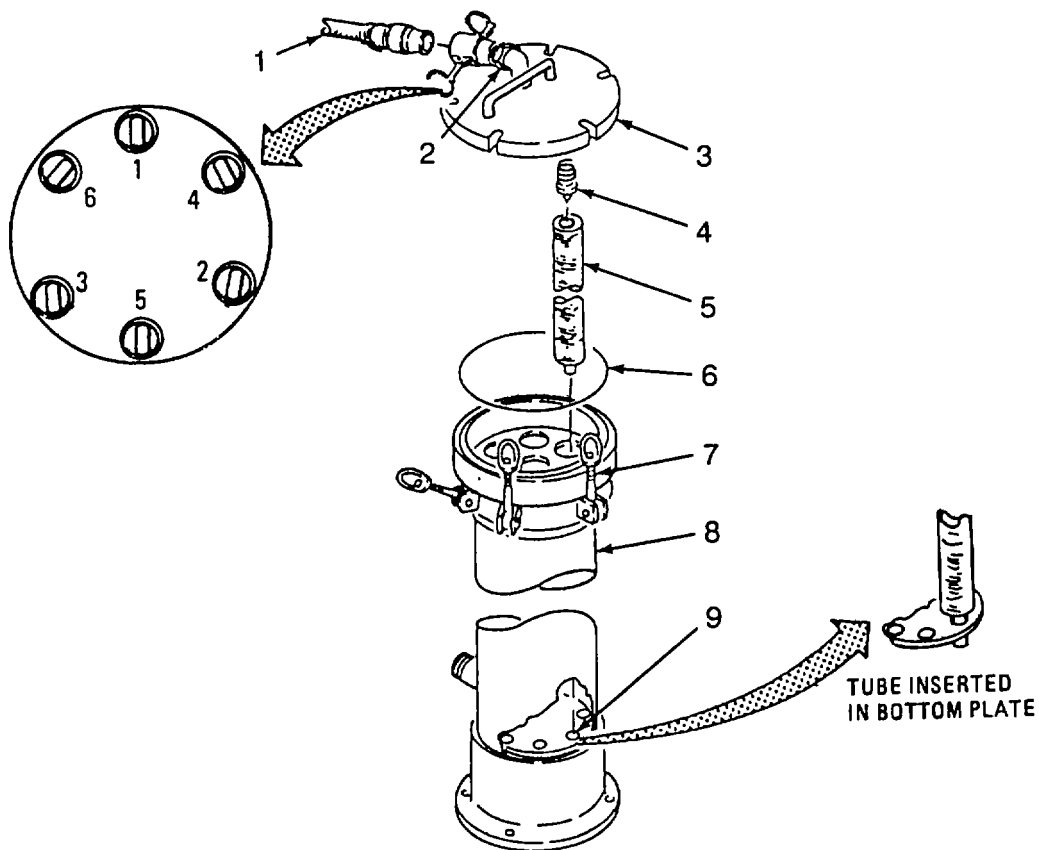

Figure 3-6. Cartridge Filter Tube Replacement.
- a. Removal. Refer to figure 3-6. The cartridge filter contains eight filter tubes. Cartridge filter tubes should be changed when CARTRIDGE FILTER gage differential pressure rises above 20 psid.
- (1) Unzip access hole in top of canvas cover.
- (2) Disconnect hose (1) from coupling (2) on filter cover (3).
- (3) Loosen six eyebolts (7) and rotate them out of notches in filter cover (3).
- (4) Remove filter cover (3) and attached parts from shell (8).
- (5) Remove eight filter tubes (5) from shell (8). Discard filter tubes.
- b. Installation. Refer to figure 3-6.
- (1) Install eight new filter tubes (5) in shell (8) making sure that the tubes seat in the bottom cartridge seats (9).
- (2) Inspect preformed packing (6) for damage and replace if required. Lubricate preformed packing (6) with silicone grease.